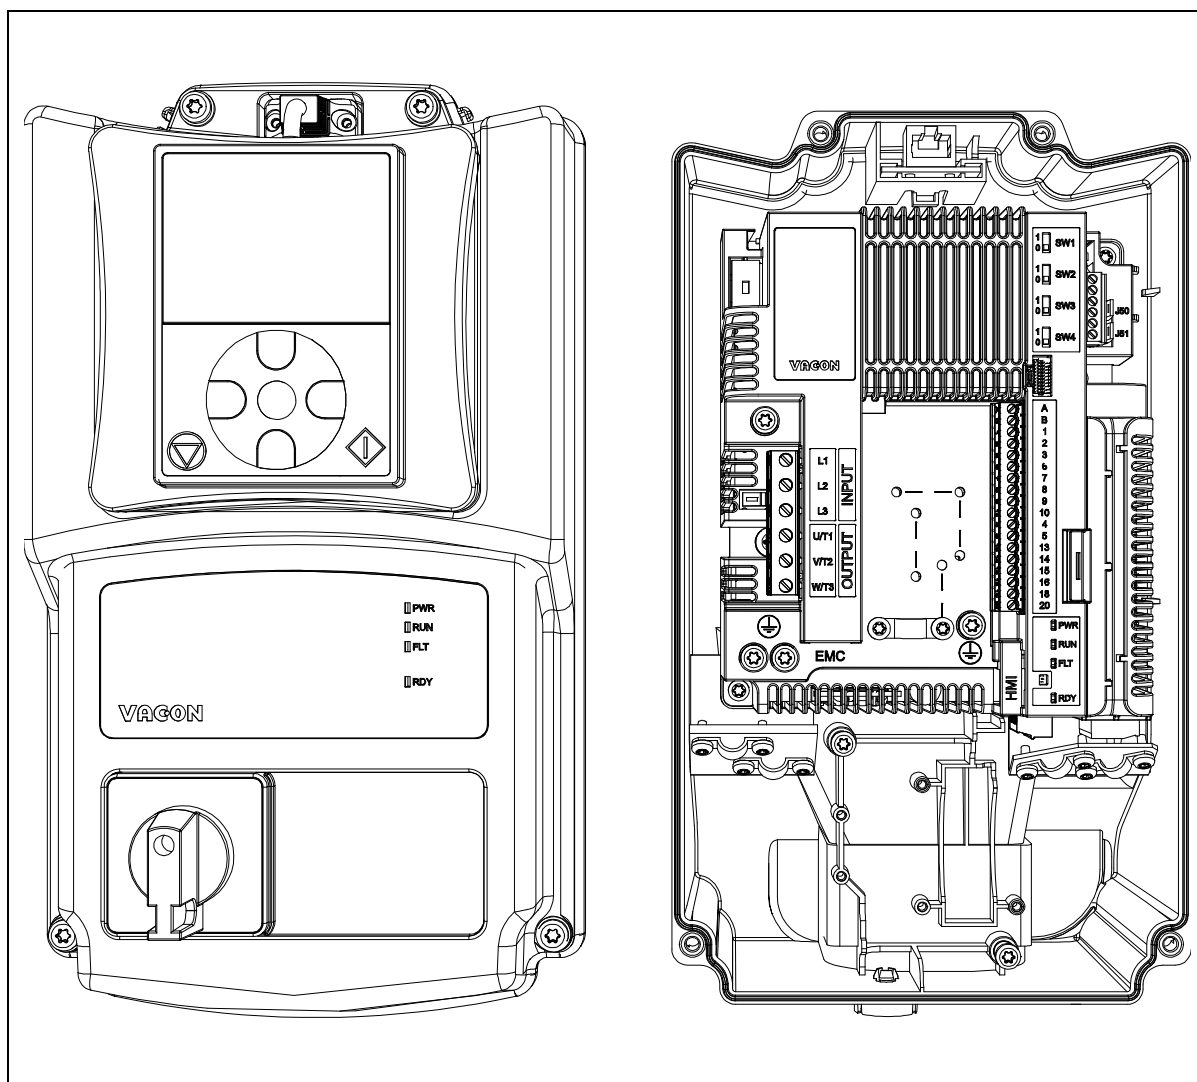

Figure 18. MU2 example: open cover.
- Remove the plastic cover of the drive as shown in Figure 18.